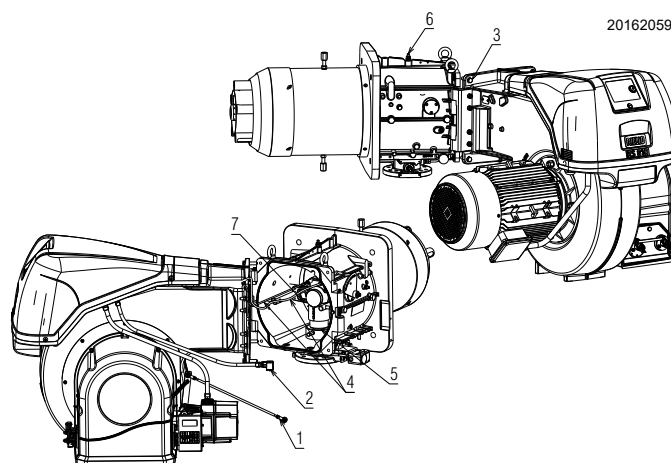

Fig. 14
- Open the burner on the hinge as in Fig. 14.